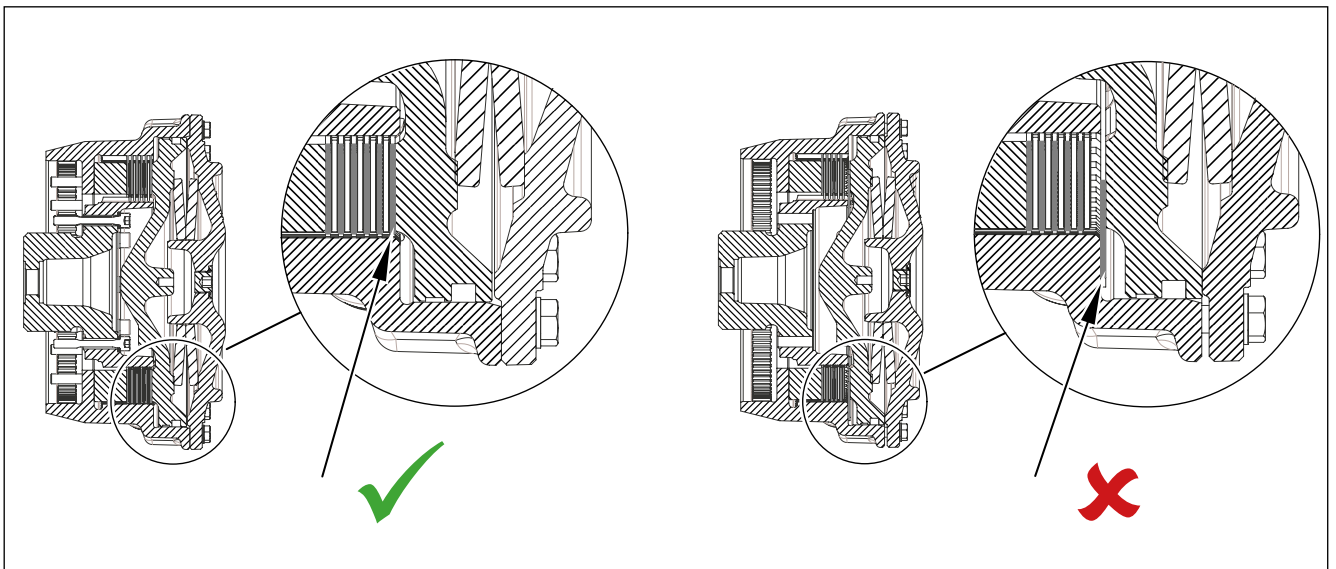

Fig. 45: Correct position of disc set
- ▶ When reassembly of brake parts, be aware of correct position of disc set. See Fig. 45